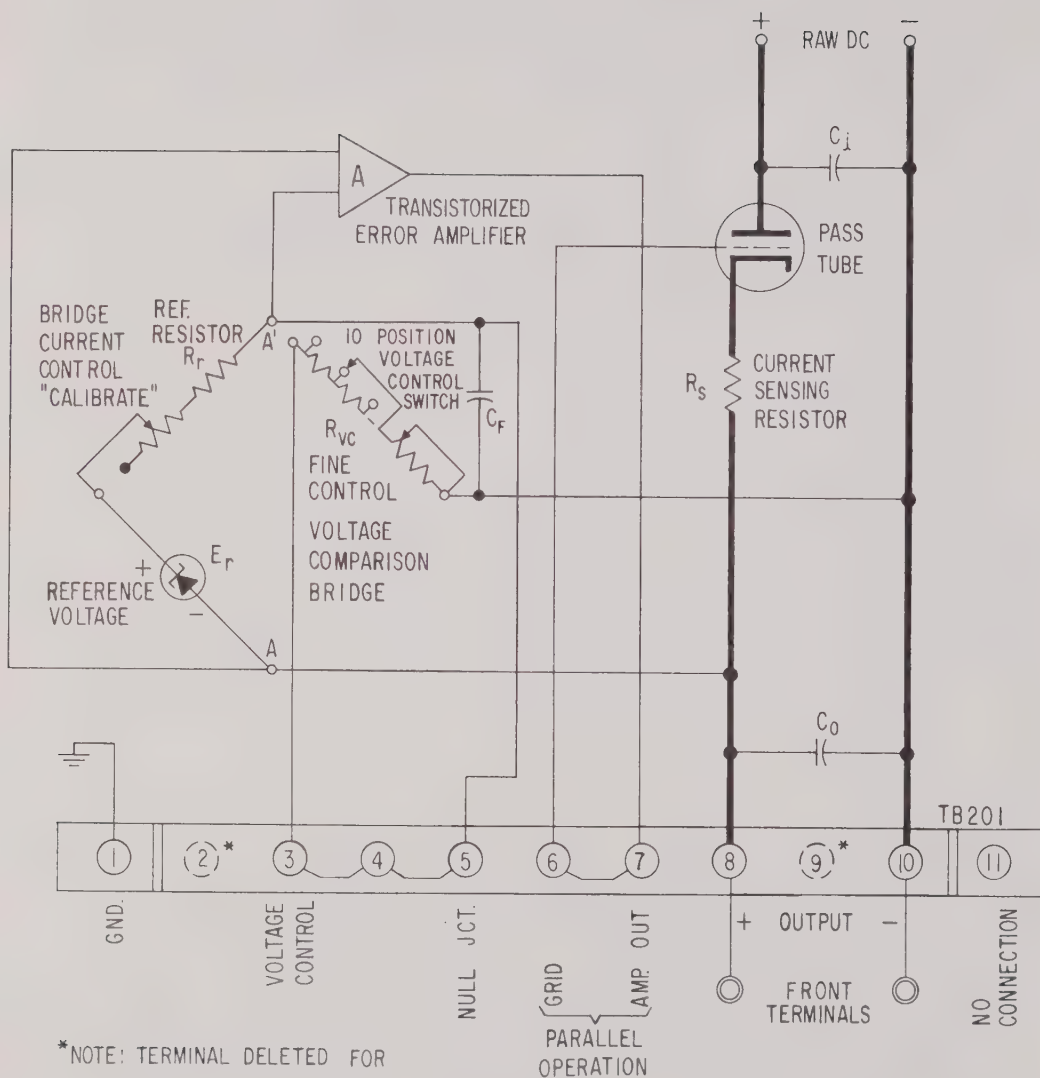

FIG. 4-1 SIMPLIFIED DIAGRAM AND CONNECTION GUIDE FOR MODELS ABC 1000, ABC 1500 AND ABC 2500
- 4-3 The simplified diagram (FIG. 4-1) and the main schematic (FIG. 5-5) should be used as a reference for the following circuit description.
The Comparison Bridge. This four-arm electrical bridge circuit is the regulating and controlling element in most Kepco Power Supplies. In the ABC-HYBRID Model, it consists of CR207 (E_r), R202A, R203 (R_r) and R4 (R_{vc}). The fourth arm is constituted by the output voltage (E_o). As shown in FIG. 4-1, the reference voltage (E_r) in series with R_r is compared continuously to the output voltage (E_o), in series with the voltage control resistor (R_{vc}). At balance, a constant current is flowing through the bridge, keeping the error-signal voltage at the bridge terminals A and A' at approximately zero volts. Any deviation from the set output voltage at balance will tend to change the bridge current in the sensing half and thereby produce an error-signal at the bridge terminals A and A'. This error-signal is then amplified and acts as a control signal for the series regulator element, changing the voltage drop across it in such a way as to compensate for the change in output voltage.